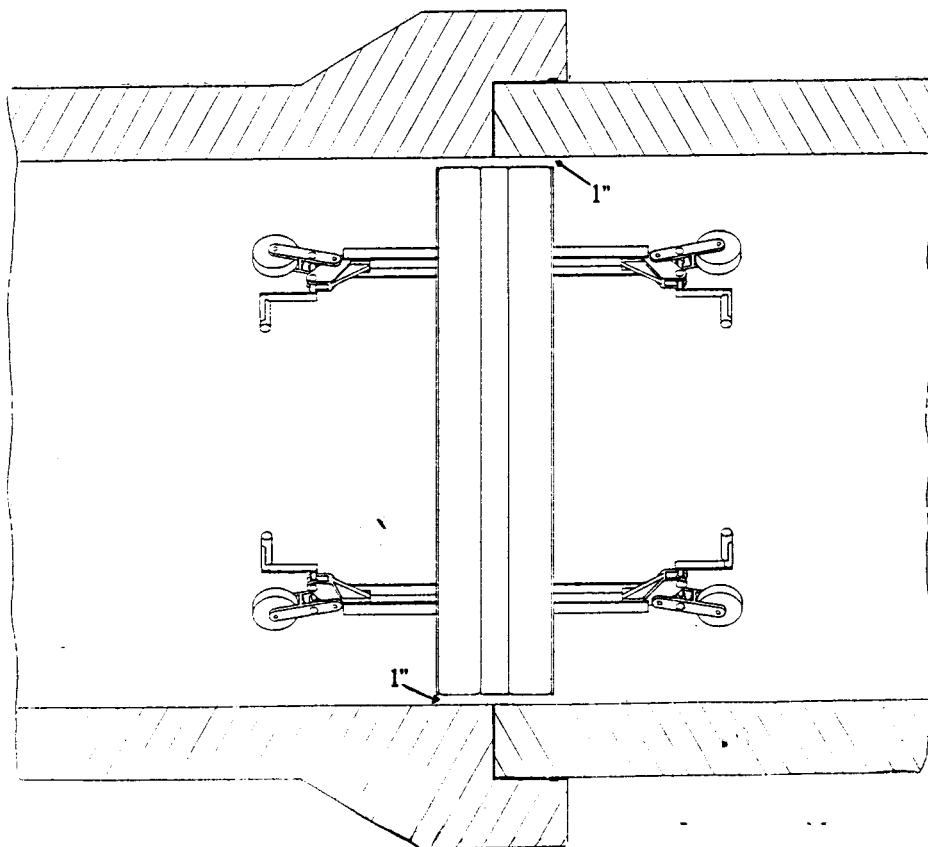

FIGURE 6
2. Refer to FIGURE 6. Place the joint tester in its upright position so that each end element straddles the joint being tested.